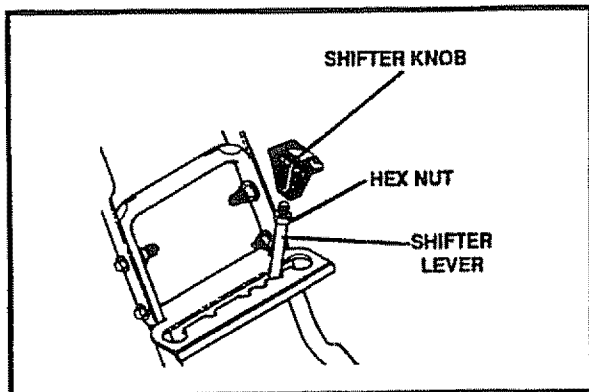

FIG. 6
- Thread the shifter lever knob onto the threaded end of the shifter lever until it is snug against the hex nut and the lip is pointed toward the engine. Tighten the hex nut against the bottom of the shift lever knob. (See Fig. 6.)